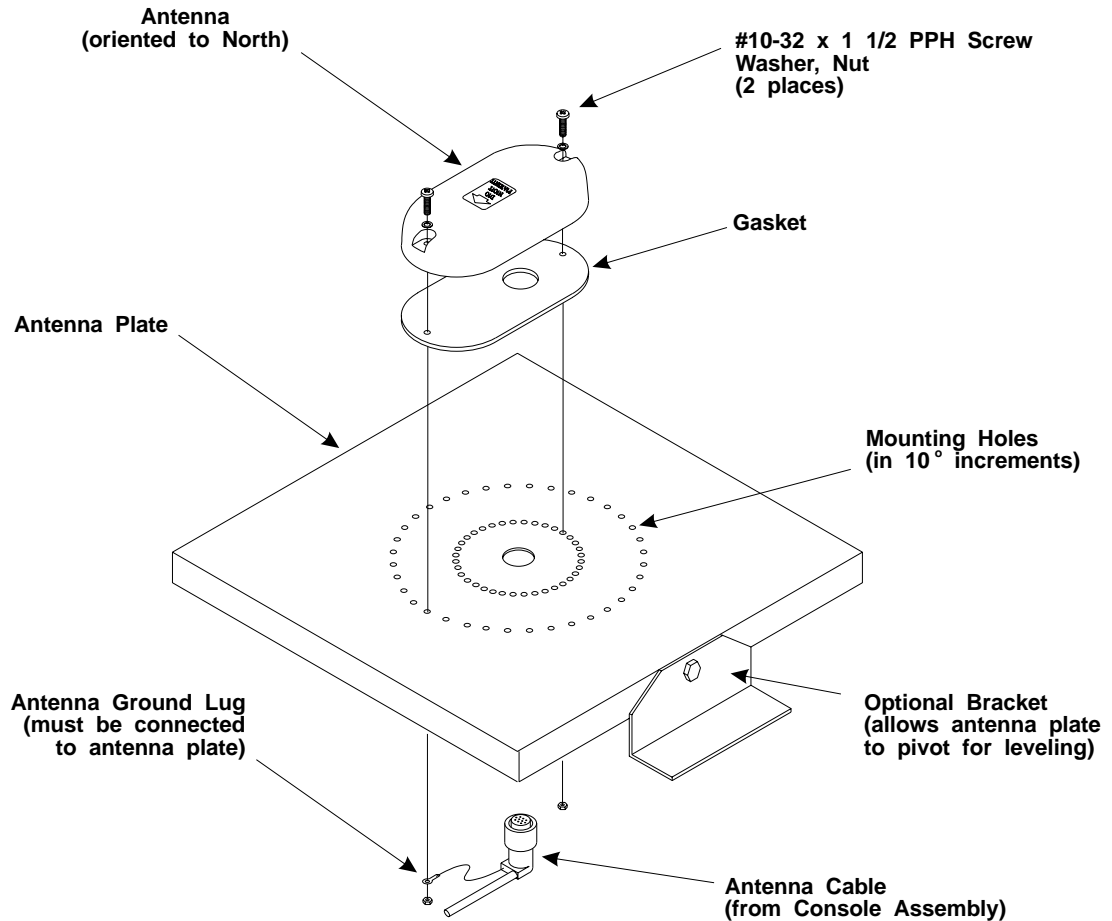

Figure 10. Mounting the Antenna
4. Mount the antenna to the plate using the #10 stainless steel hardware. Use the pre-punched mounting holes corresponding closest to the True North antenna orientation. In this case, you would mount the antenna at 010°. (The mounting holes are drilled in 10° increments.) See figure 10.